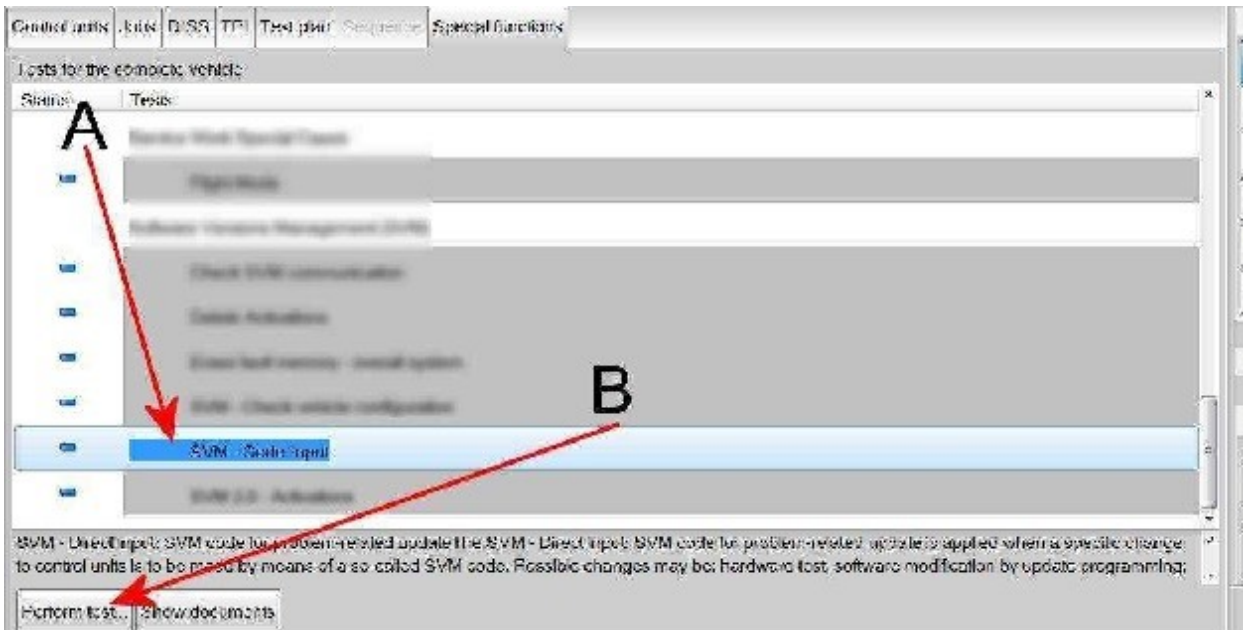

Figure 10
2) Referring to Figure 10 - Within the Special functions tab - Select SVM - Code Input (Point A)